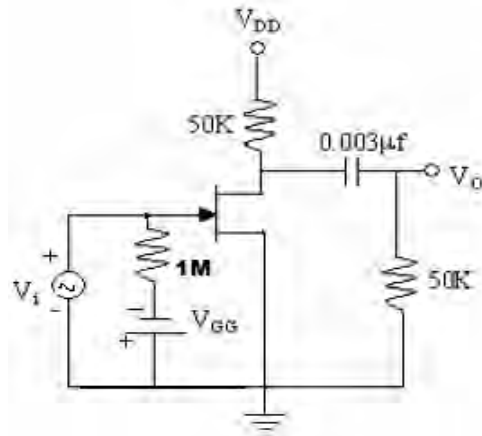

Figure.2
- 3.a) Draw the circuit diagram of NPN transistor in Common Collector (CC) configuration. With neat sketches and necessary equations, describe its static input- output characteristics and clearly indicate the cut-off, saturation & active regions on the output characteristics?
- b) In the common source FET amplifier shown in Figure.2, the transconductance and drain dynamic resistance of the FET are $5mA/V$ and $1M\Omega$ respectively. Estimate A_V , R_i & R_o . [8+7]